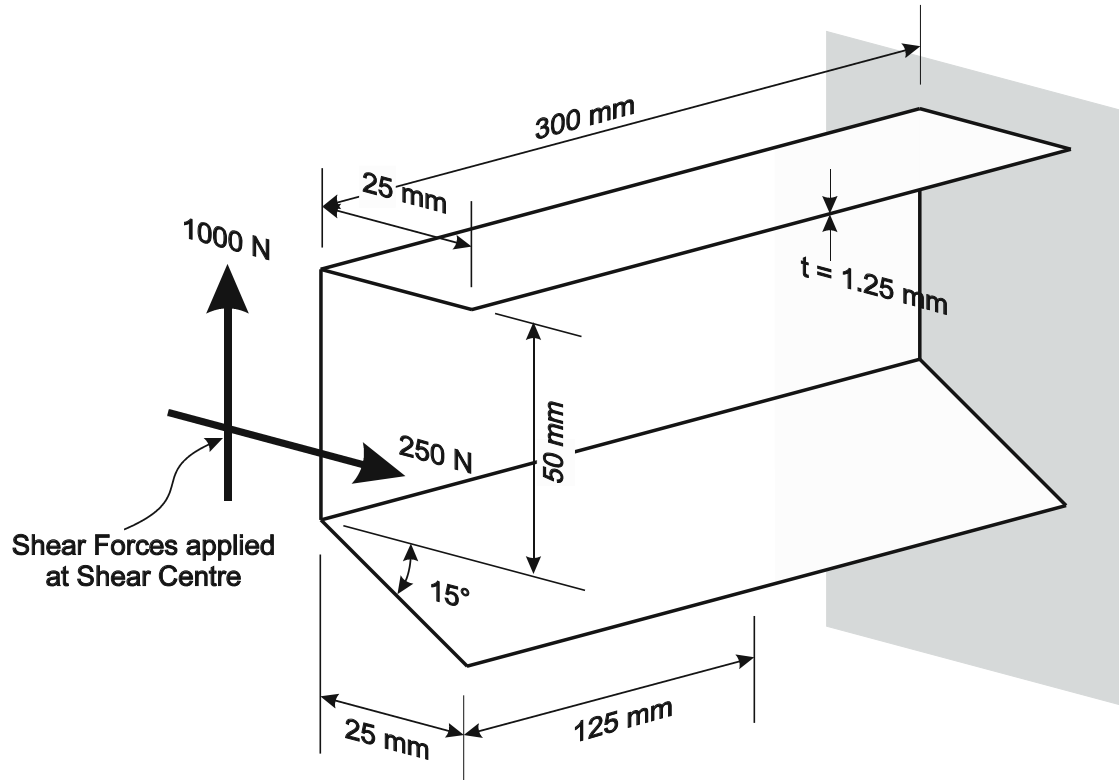

Figure 1: I-Beam beam with applied loading
- The cantilever beam of Figure 1 is loaded with a vertical shear force $S_y = 1000\text{ N}$ and a horizontal shear force $S_x = 250\text{ N}$ through the shear centre at its free end, Figure 1. Determine the bending stress distribution and sketch it at a section 125 mm from the free end.
- Using the bending stress equation which you calculated for question 1, idealise the cross section of the cantilever beam of Figure 1 at a distance of 125 mm from the free end. You will need to use booms which are equally spaced over the perimeter of the cross section, and their number should range between 7 and 42. For the idealised section, calculate the shear flow distribution and calculate the position of the shear centre (S_{cx} , S_{cy})